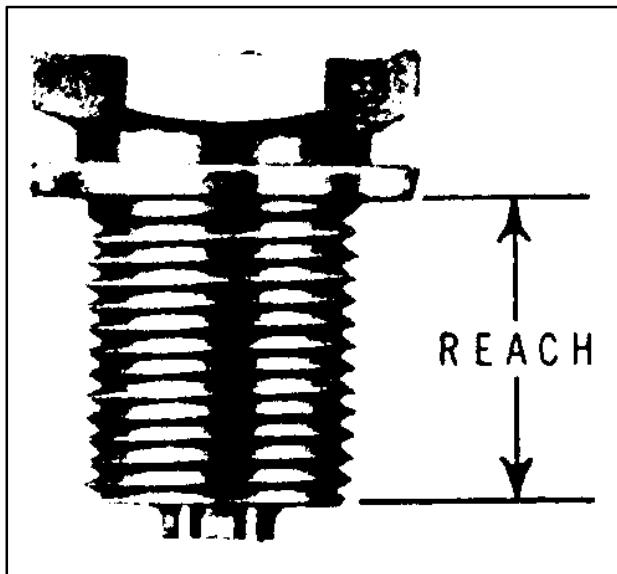

FIGURE 8-4. Spark plug reach.
b. Reach. The spark plug reach (see figure 8-4) is the threaded portion which is inserted into the spark plug bushing of the cylinder. A plug with the proper reach will ensure that the electrode end inside the cylinder is in the best position to achieve ignition. Spark plug seizure or improper combustion within the cylinder will probably occur if a plug with the wrong reach is used. Shell threads of spark plugs are classified as 14- or 18-mm spark plug diameter, long reach or short reach, thus: